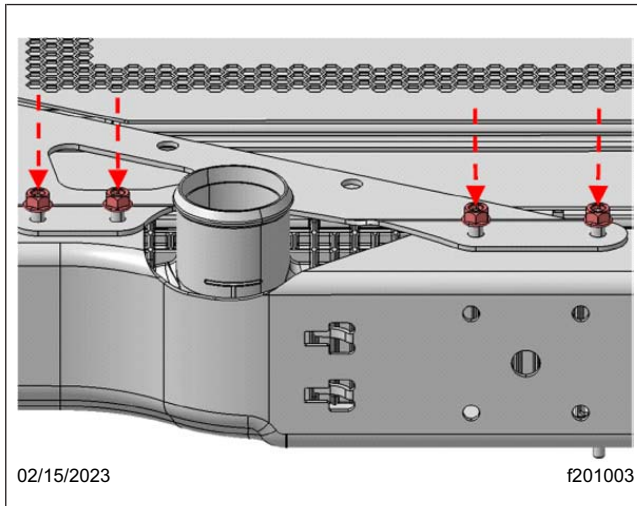

Fig. 4, M8 Flange Nut Installation
- 10.3 Tighten the M8 hex flange nuts 13 ± 1.5 lbf·ft (18 ± 2 N·m). See **Fig. 4**.